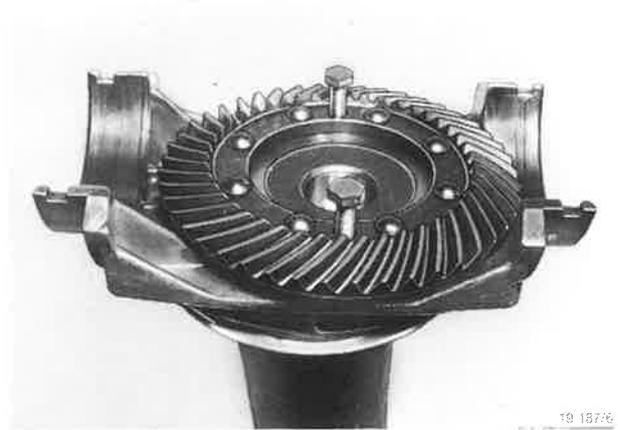

Fig. 4
- 3 Turn crown wheel with press-off threads into position acc. to fig. 4. Screw in two M 10 x 50 screws (with continuous thread) and push crown wheel by alternating screwing in of screws out from bearing in half-axle. Remove adjusting shim (3/4).